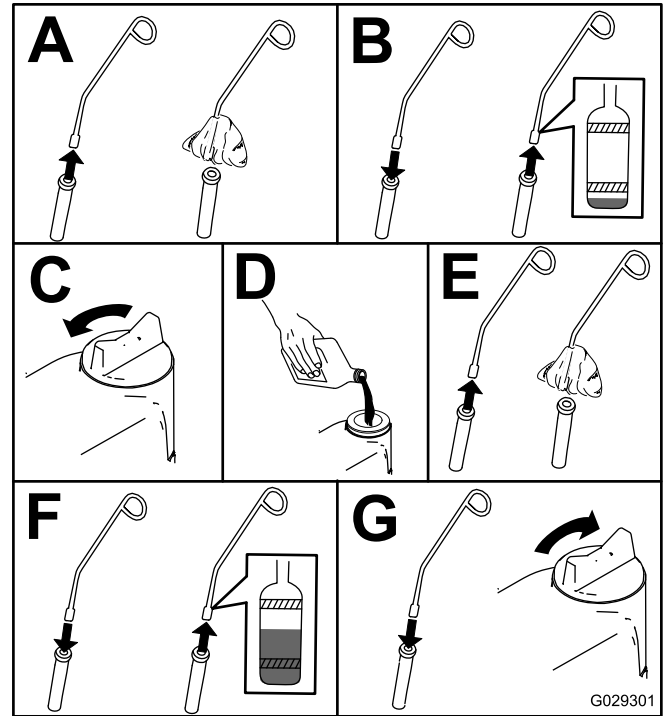

Figure 37
4. Check the engine-oil level as shown in Figure 37.